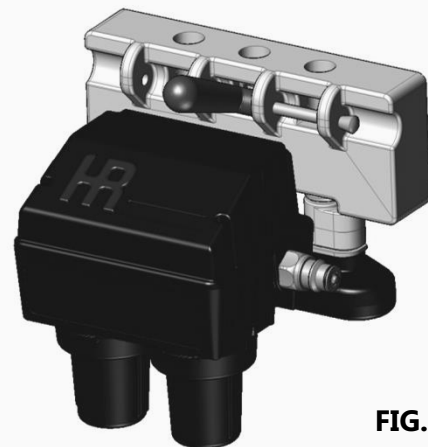

FIG.1.4
Securing the Hydra Rinse Pro-control Module on a 150-XX, 161-XX, (C) 161-XX, 152-XX, (C) 152-XX, 162-XX, and 168-XX Taylor Models: The Center Draw Valve Handle will be repurposed to secure the Hydra Rinse® Pro-control module to the soft serve machine as illustrated **FIG 1.4**.